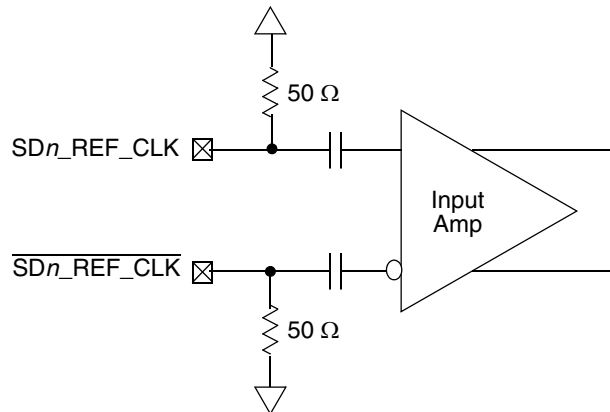

Figure 39. Receiver of SerDes Reference Clocks
Figure 39 shows a receiver reference diagram of the SerDes reference clocks.
- The  $\text{SD}n\_REF\_CLK$  and  $\overline{\text{SD}n\_REF\_CLK}$  are internally AC-coupled differential inputs as shown in Figure 39. Each differential clock input ( $\text{SD}n\_REF\_CLK$  or  $\overline{\text{SD}n\_REF\_CLK}$ ) has a 50- $\Omega$  termination to SGND followed by on-chip AC-coupling.